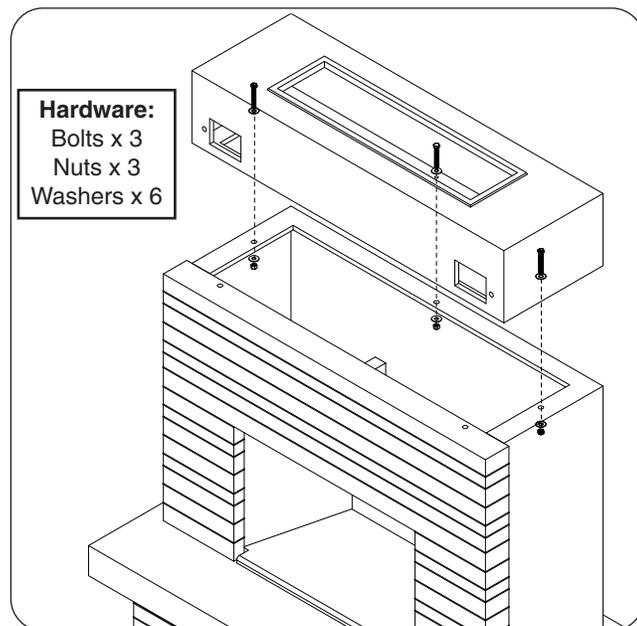

Fig. 23-1 Assemble chimney
1. Place the chimney piece on top of the body piece. Carefully align the pilot holes, and repeat the hardware installation process. See Fig. 23-1.